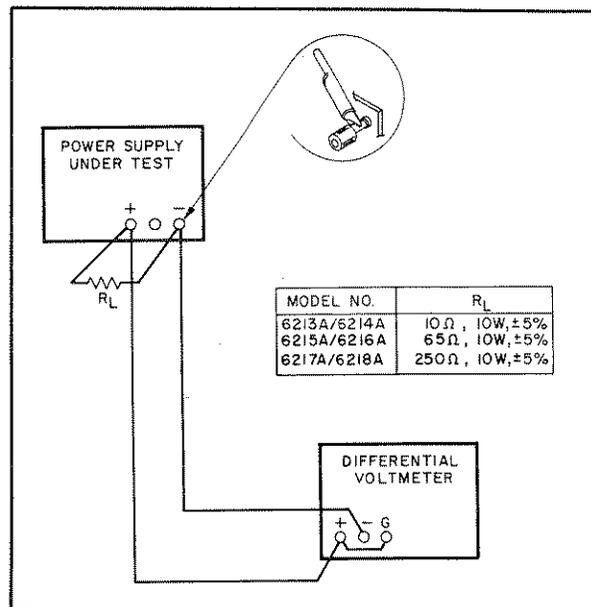

Figure 5-3. CV Load Regulation, Test Setup
- Connect load resistor ( $R_L$ ), indicated in Figure 5-3, across the output terminals of supply.
- Connect test setup as shown in Figure 5-3.
- Connect test setup shown in Figure 5-3.
- a. Connect the load resistance, attenuator, and differential voltmeter as illustrated in Figure 5-3.